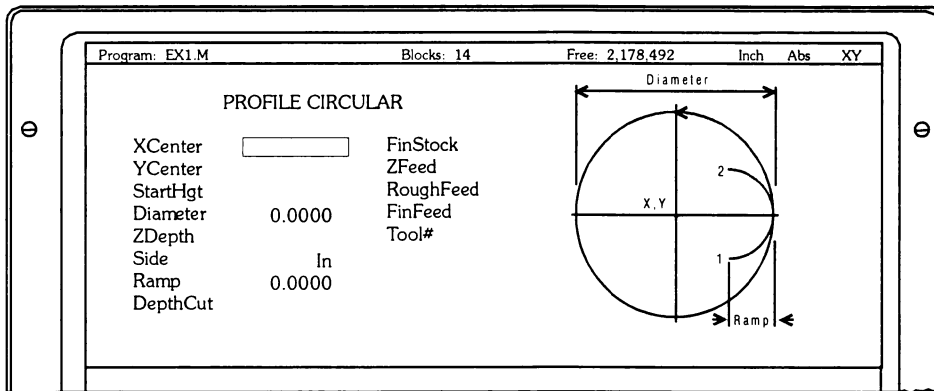

Figure 5, Circular Profile Screen Diagram
2. Machine feeds into the profile along Ramp #1, cuts profile to the **Diameter** specified, then ramps away from the work along Ramp #2, see *Figure 5. Circular Profile Screen Diagram*.
press (ENTER),  (PROFILE CIRCULAR screen diagram displays, see Figure 5. Circular Profile Screen Diagram).